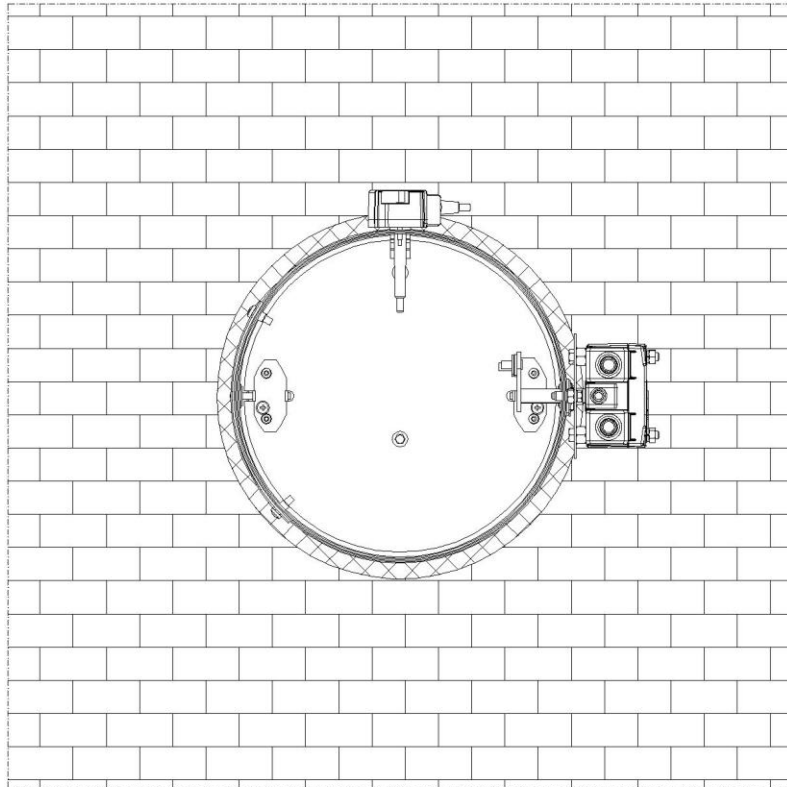

Figure 6. Installation of KTM fire dampers in rigid wall with horizontal rotation axis of baffle
- After mounting the collar, remove the supports or suspension, check the fire damper correct operation and leave it in open position (installing in KTM-O damper thermal fuse as shown on the fig. 6).